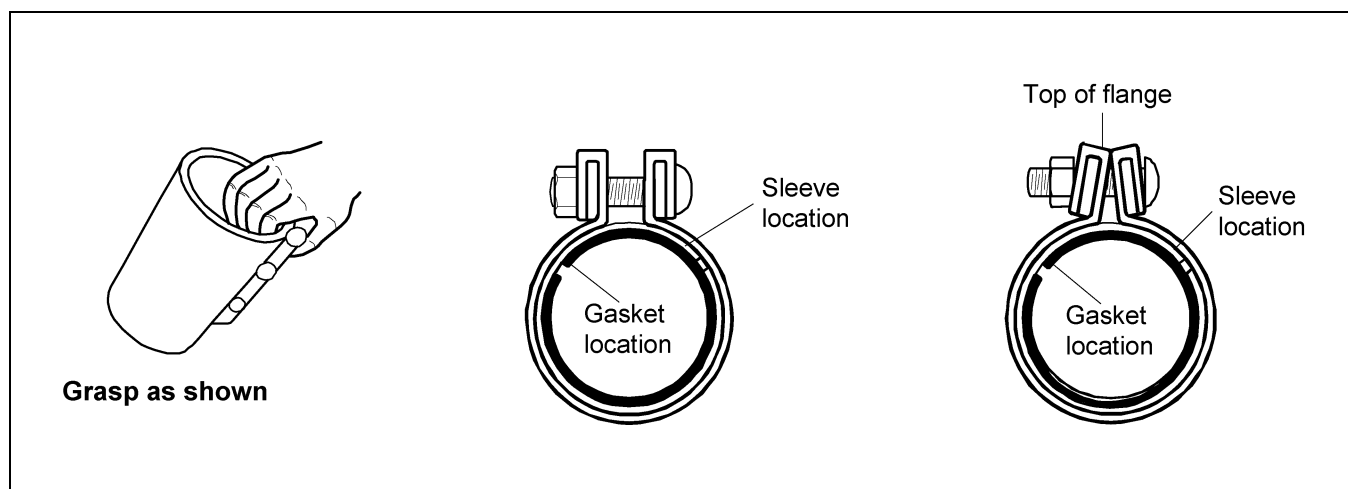

Figure 14A
1. Couplings are shipped ready-to-install. Do not disassemble. To prevent gasket from slipping out of proper position, always grasp coupling as shown in Figure 14A. This will save time by maintaining proper position of gasket and sleeve in relation to shell and flange.
3. Grasp coupling as shown in Figure 14A to keep gasket and sleeve (and gasket protector when used) in separate quadrants, as shown in Figure 14A. Be sure gasket teeth mesh and do not overlap.
7. When properly and evenly tightened to the recommended torque the coupling installation is complete. The top edges of the flanges will touch and flanges appear as a vee when viewed from the end, as shown in Figure 14A. **DO NOT** attempt tightening bolts to flatten flange faces together, as this exceeds recommended limits.